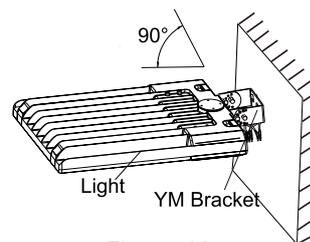

Figure 18
Step 3: Connect the fixture to the bracket and tighten the screws; connect the wires properly and put them into junction box. (Figure 18)
Notice: Adjustable angle is 0-90°(Figure 18)